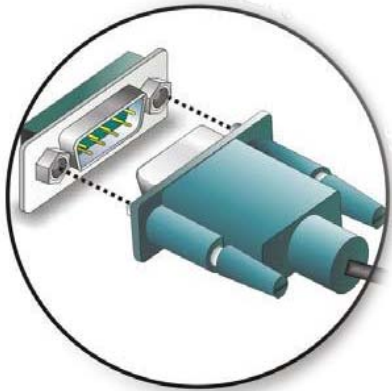

Figure 3-5: Serial Device Connector
Step 1: Insert the serial connector. Insert the DB-9 connector of a serial device into the DB-9 connector on the external peripheral interface. See **Figure 3-5**.